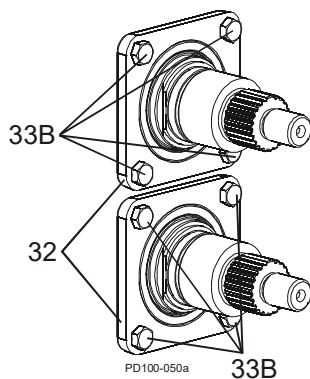

Figure 38 - Remove Bearing Retainers
3. Remove the front bearing retainer bolts (Figure 38, item 33B) and pull off the bearing retainers (item 32). (If a retainer is stuck, leave it in place; it will press out when the shaft is removed.)